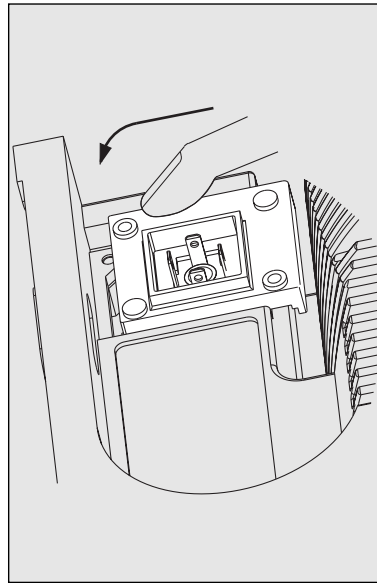

Fig. 15
- ▶ Push the relay component through the relay opening, holding the upper corner of the lower edge against the guide rail on the pump base, until the contact of the relay component has reached the controller contact. (See fig. 15: test: can you still move the end of the circuit back and forth?)